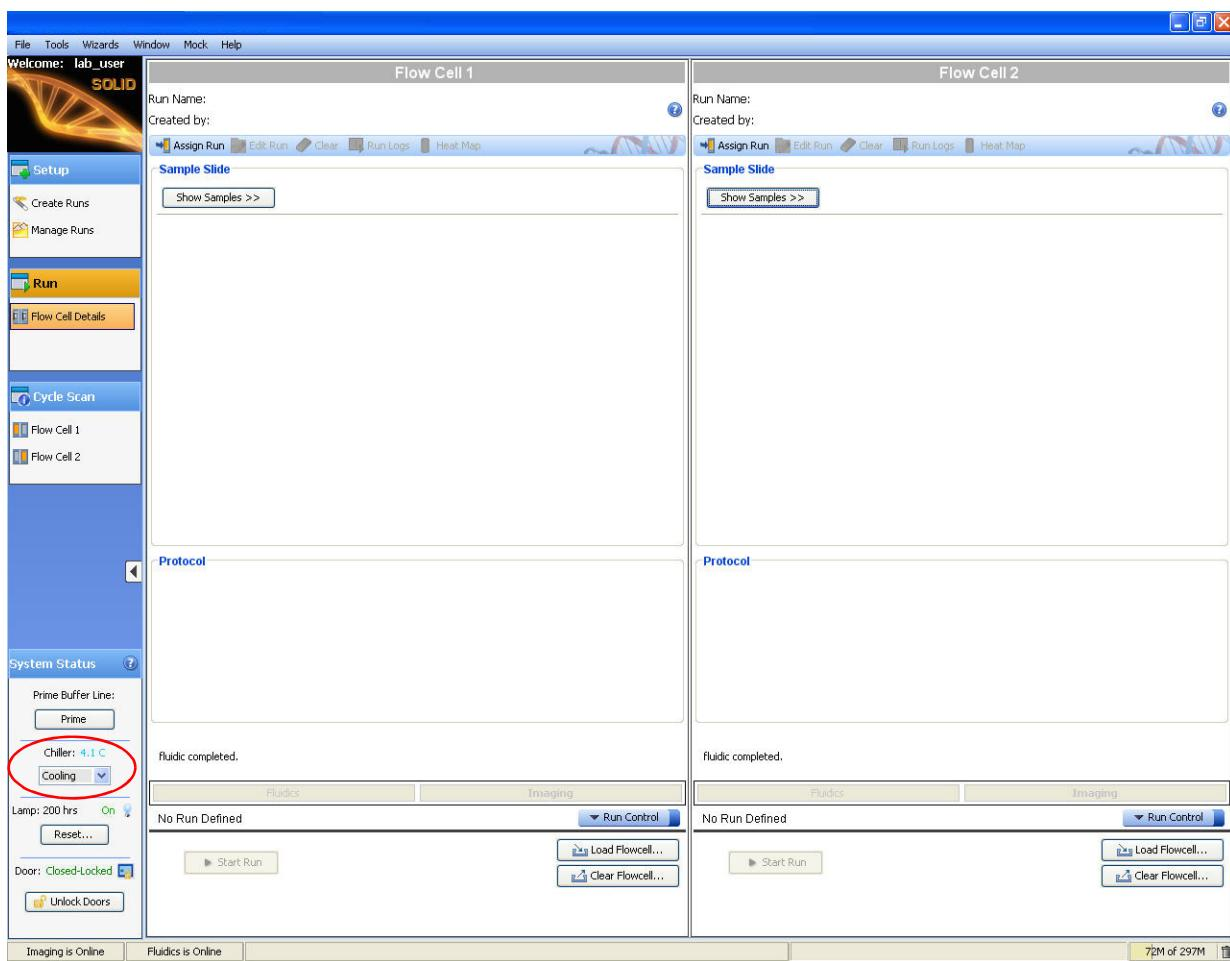

Figure 13 Select **Cooling** to cool the flowcell.
3. Under the System Status menu, select **Cooling** from the Chiller drop-down menu (Figure 13).
! **IMPORTANT!** Ensure that the chiller block temperature is below 10 °C before proceeding with reagent strip installation. Under the System Status menu, select **Cooling** from the Chiller drop-down menu (Figure 13 on page 20).